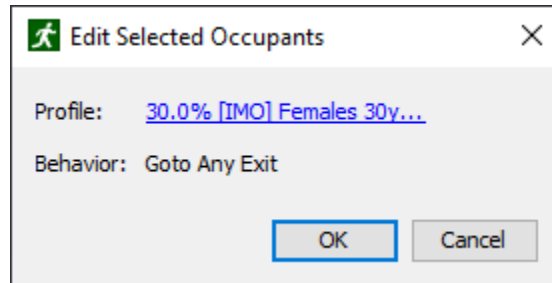

Figure 110. Edit Selected Occupants dialog
1. Select occupants, right-click one of the selected occupants either in the Navigation view or Model view, and then select **Properties** from the right-click menu. To edit a single occupant or group, double-click the occupant or group in the Navigation view. The Edit Selected Occupants dialog will appear as shown in Figure 110.